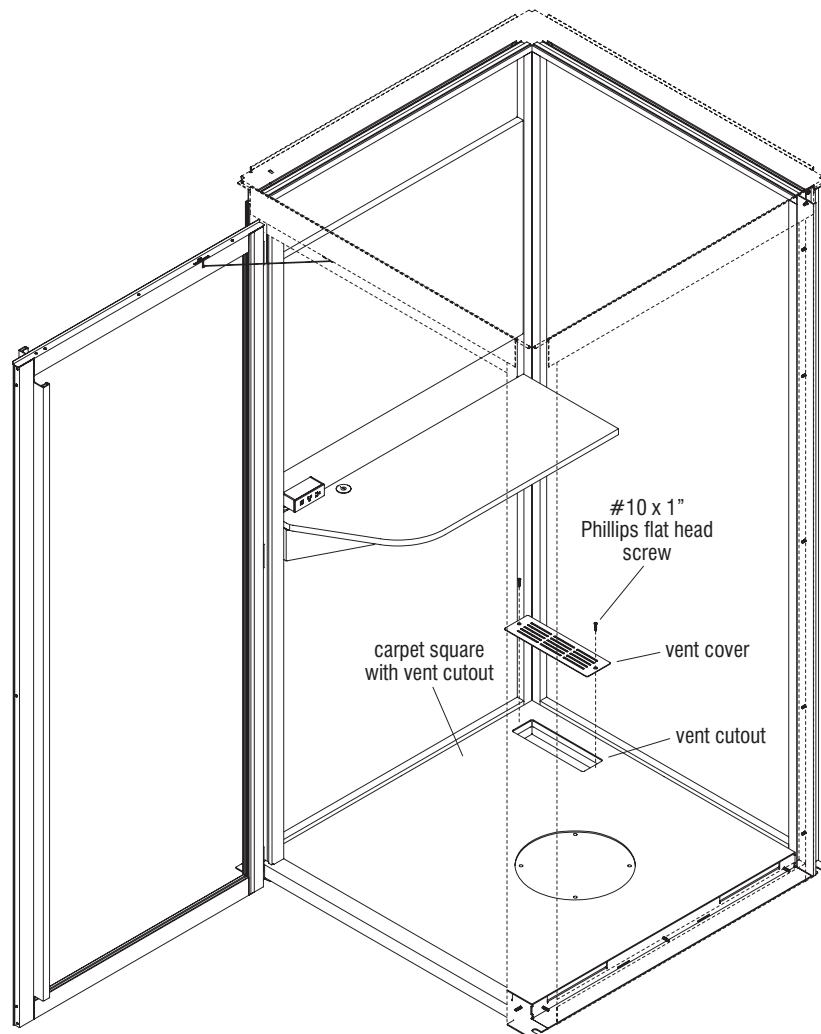

Figure 33
1. Inside the pod, position the vent cover above the vent cutout on the floor board (Figure 33).
2. Using the vent cover as a template on top of the vent cutout, align the unit straight, then mark the two mounting hole locations and move the cover away (Figure 33 & Detail E3).
4. Align the mounting holes of the vent cover with the pre-drilled holes on the floor board. Secure the cover to the floor board using two #10 x 1" Phillips flat head screws. Take care to not overtighten (Figure 33 & Detail F3).